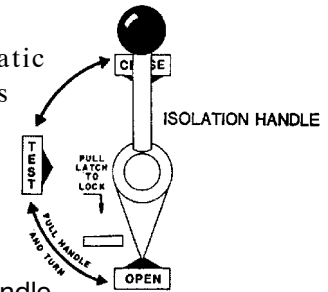

Figure 3-4. Isolation Handle.
2. Isolate the automatic transfer switch as follows. Refer to Figures 3-4, 3-5, and 3-6.